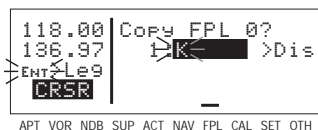

Figure 4-2
4. Use the right inner knob to select the first character of the departure waypoint identifier (figure 4-2). If you have set the default first waypoint character to **K** on the SET 5 page, you will just need one turn clockwise (see section 3.4.2, "Data Entry")